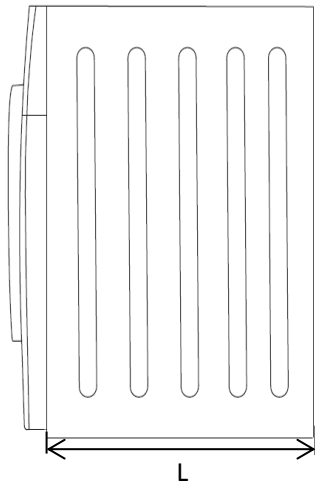

Figure1:Old Platform
- The stacking kit is suitable for both new(See Annex 1 and Figure 1,with vertical stripes) and old(See Annex 2 and Figure 2,with horizontal stripes) platforms, the main difference: